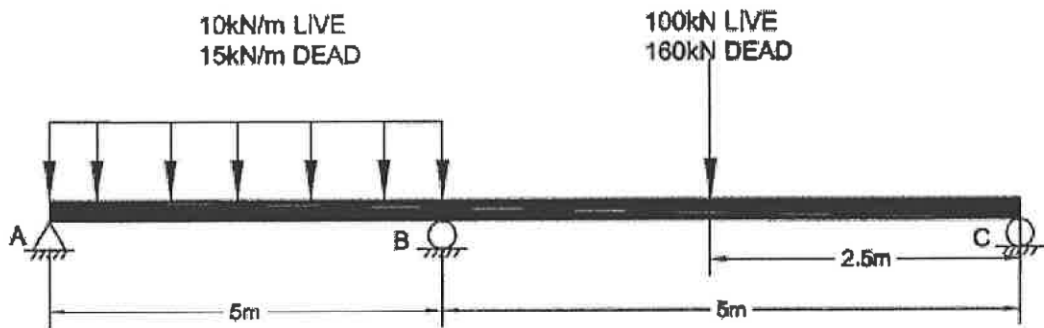

FIGURE 1
- A1. For the beam shown in Figure 1 determine the most appropriate wide flange section, assume that the beam is only laterally restrained at the support locations
- A3. For the beam in Figure 1 if the span between A and B is to be of a cross-section depth equal to approximately 2/3 of that used in B-C what two wide flange sections are most appropriate? Define the connection between the sections (welded) to ensure continuity.